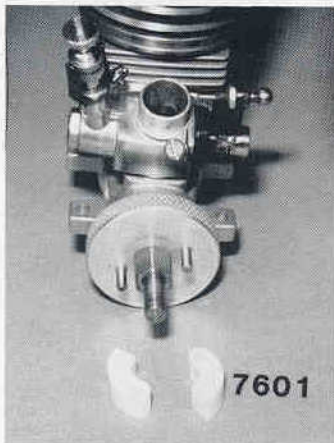
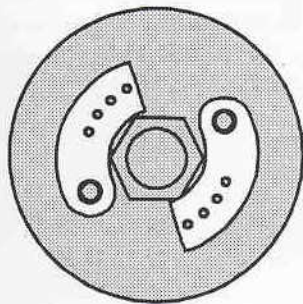

Fig. 256
Fig. 257
Now mount the ball end on the pivot arm with the ball facing away from the carburetor. Thread the 2-56 nut onto the other end and tighten. We recommend using Loctite on the threads to keep the nut from coming loose due to engine vibrations. Reinstall the carburetor to the engine and tighten the clamp nut or the mounting screws. We want the throttle pivot arm to be parallel with the crankshaft on the Dynamite engine; the other engines have fixed carb locations. See fig. 256.
□ **Figs. 256, 257** Now remove your #7601 clutch shoes, fig. 256, and place them on the clutch pins of the flywheel as shown in fig. 257.